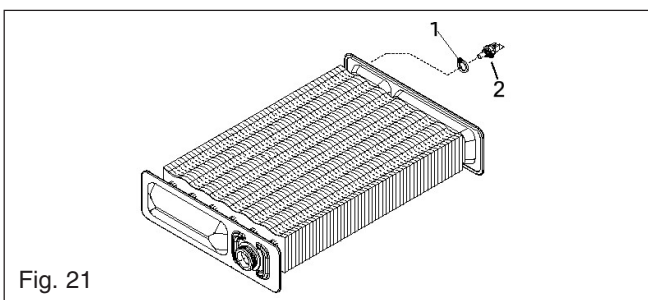

Fig. 21
6.10 PRIMARY THERMISTOR fig. 21